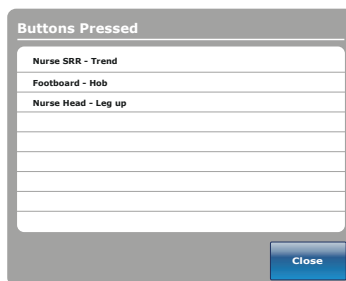

Figure 27e: Pressed Buttons
- e. **BUTTONS PRESSED** (Figure 27e)